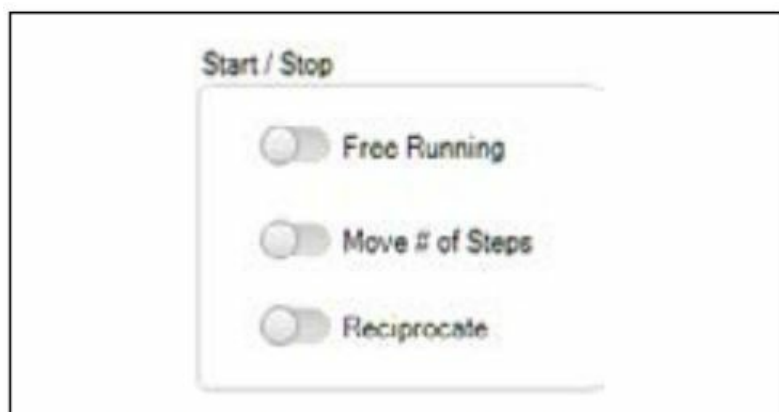

Figure 6. Start/Stop Control-Settings Group Box
- The Start / Stop group box allows the user to move the motor in one of three modes (see Figure 6).